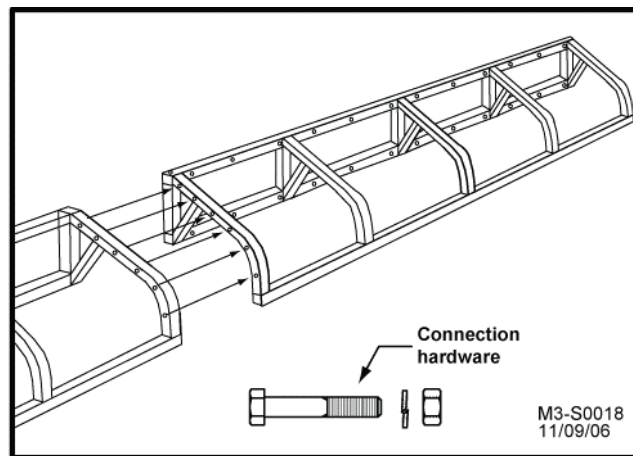

Figure A-1: Connect Frame Segments
1. Connect frame segments using provided hardware. See Figure A-1.